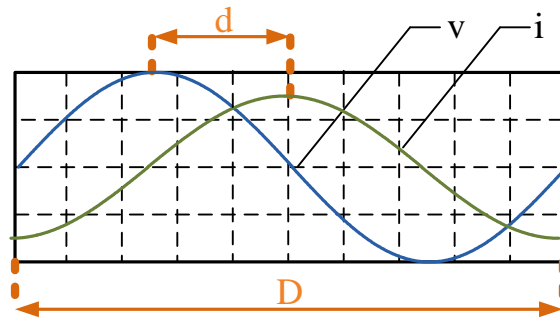

Figure 4-7: Output waveforms.
3. Switch the Vertical Mode to channel 1, this will be the reference signal channel. Adjust scope (Volts/Div. Button) and output level of the generator until a single stationary sine wave is displayed on the screen for the entire width. Center the waveform. (See Figure 4-7)
5. Measure the horizontal distance D (in divisions, see Figure 4-7) for the voltage sine wave labeled v . Record the value in Graph 4-1. This is the period of the waveform.
6. Measure the horizontal distance d (in divisions, see Figure 4-7) between the two positive (or negative) peaks of the sine waves. Record the value in Graph 4-1. This is the phase difference between the two waveforms.
7. With reference to Figure 4-7, the phase shift θ (in degrees) is given by